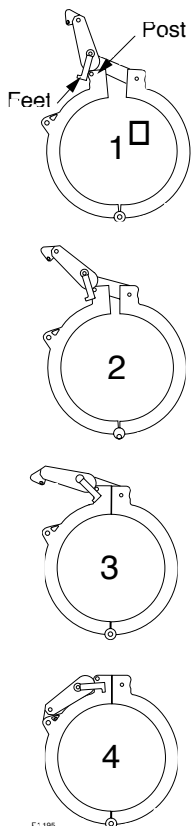

Fig. 26
4. Position feet of handle in front of the two posts and push down on the handle to pull the two halves of the clamp together. (Figure 26, Steps 1-3)
5. Continue to push handle down until the small pin on the handle snaps into the triangular hole in the clamp. (Figure 26, Step 4)